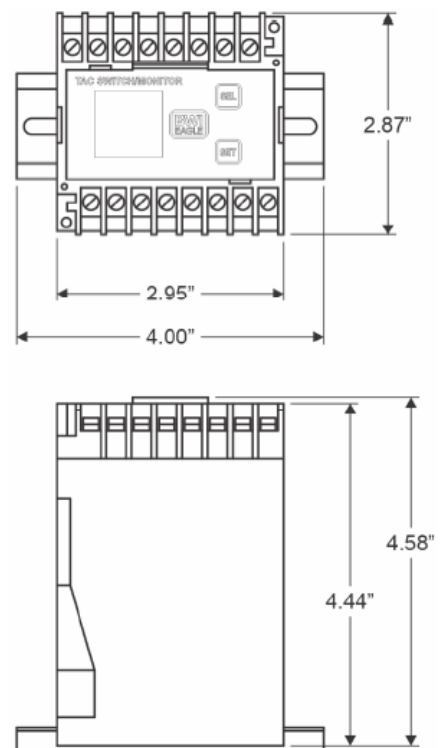

FIGURE A5.3: 37543 Smart Monitor dimensions
2. Mount the Smart Monitor inside an existing control panel or other suitable protective enclosure. See Figure A5.3 for Smart Monitor mounting dimensions.